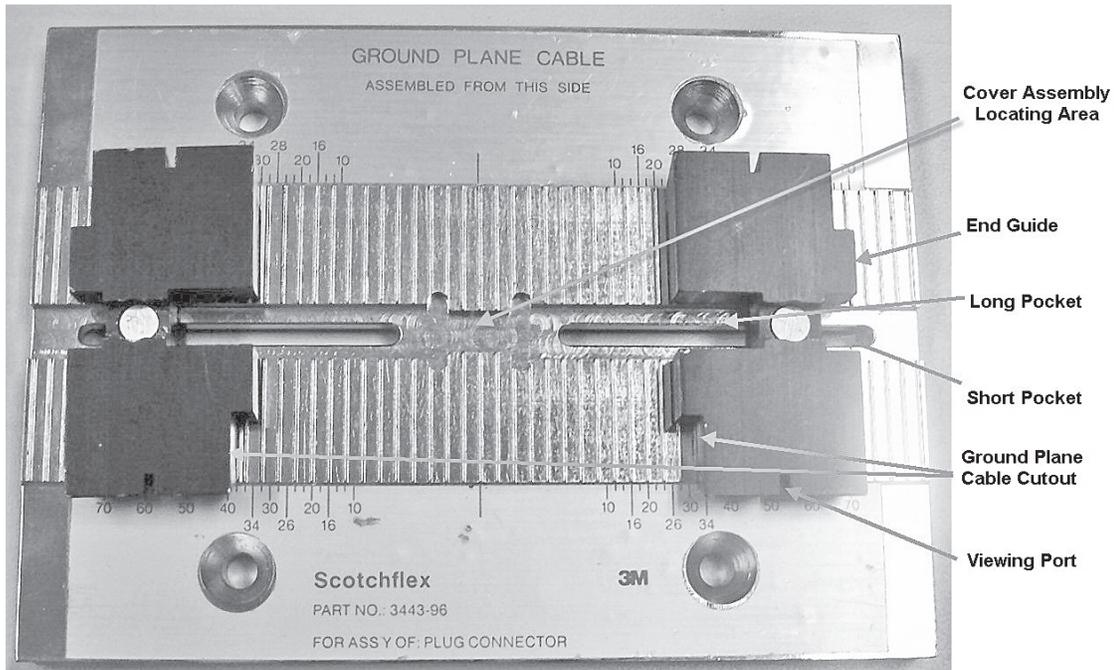

Figure 1
- 2.1 Various adjustments to the locator plate are required, depending on which plug connector or cable is being assembled. The 3M™ Locator Plate 3443-96 is the recommended assembly aid. (Figure 1)